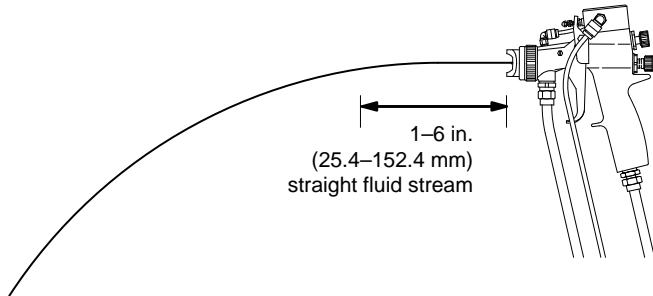

Fig. 14
- C. Hold the gun parallel to the floor and adjust the adhesive fluid pressure until you have a 1 to 6 inch (25.4 to 152.4 mm) straight fluid stream before the stream falls off. See Fig. 14.